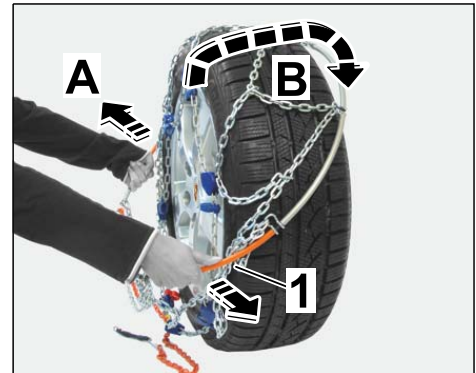

Figure 5
- 2.1.3 Pull the ends of the spring steel clip the maximum distance apart (⇒ *Figure 5 -A-*).
Guide snow chain over the wheel from above (⇒ *Figure 5 -B-*).